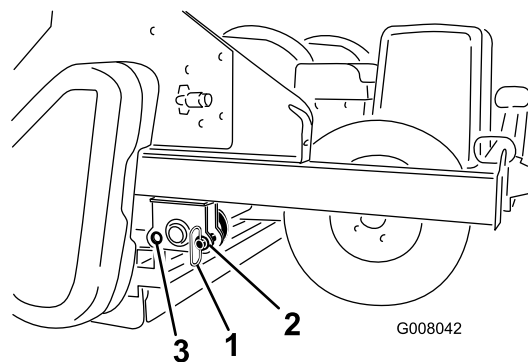

Figure 16
1. Remove the storage pins from the rear hole position (Figure 16).
2. Slowly lower the processor until it comes to rest on the rear roller and tires. Install the storage pins into the front hole position (Figure 16).